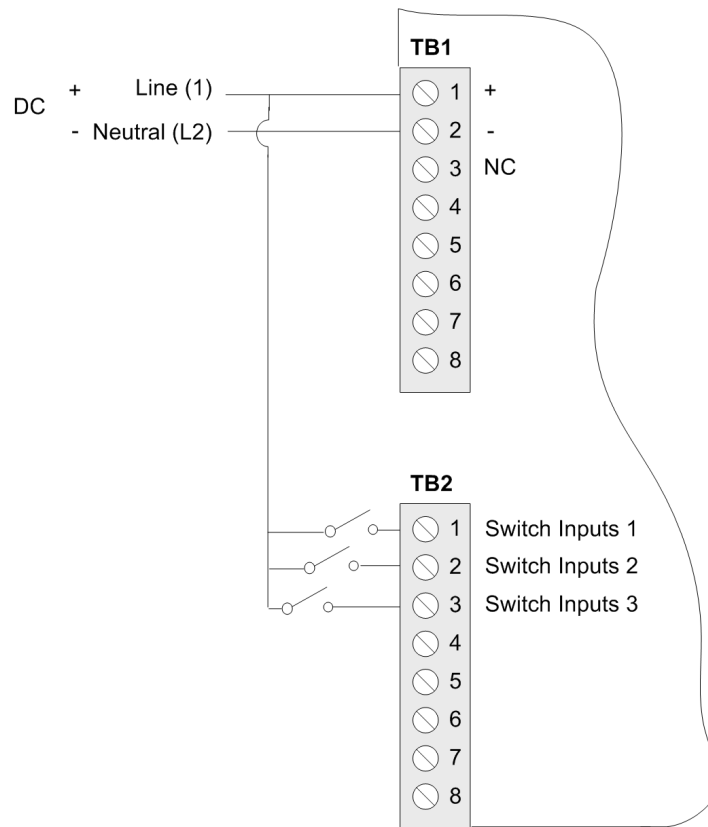

Figure 5: Wiring For Switch Inputs
There are three (3) programmable switch inputs for variable 18. They are used to Reset the outputs, or to freeze the display. Inputs 1, 2, and 3 require a voltage equal to the supply voltage, which is at the same potential as the input Line (L1), (+DC) voltage. The opposite sides (*non accessible*) of these solid-state inputs are tied to input Neutral (L2), (-DC). Wire input 1 to TB2-1, input 2 to TB2-2, and input 3, to TB2-3. See Figure 5.